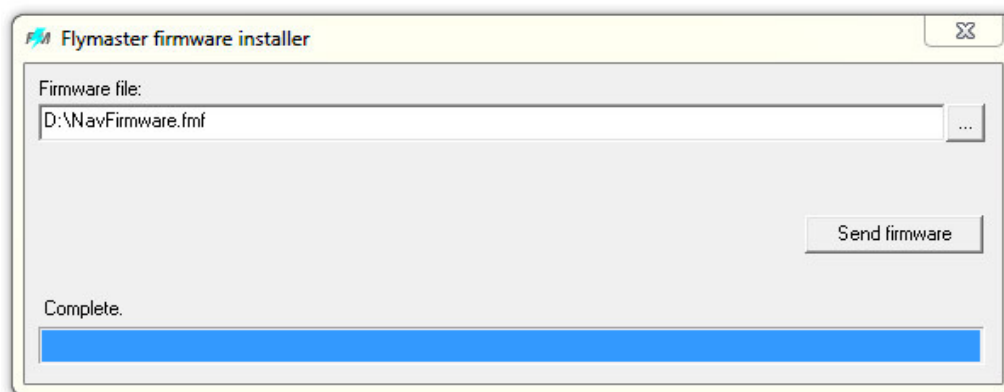

Figure. 41- Firmware Installer
1. Double click the firmware file, this will start the Flymaster Firmware installer, with the firmware path already inserted. Alternatively, open the Firmware installer, and insert the path to the firmware file. (see Figure. 41)